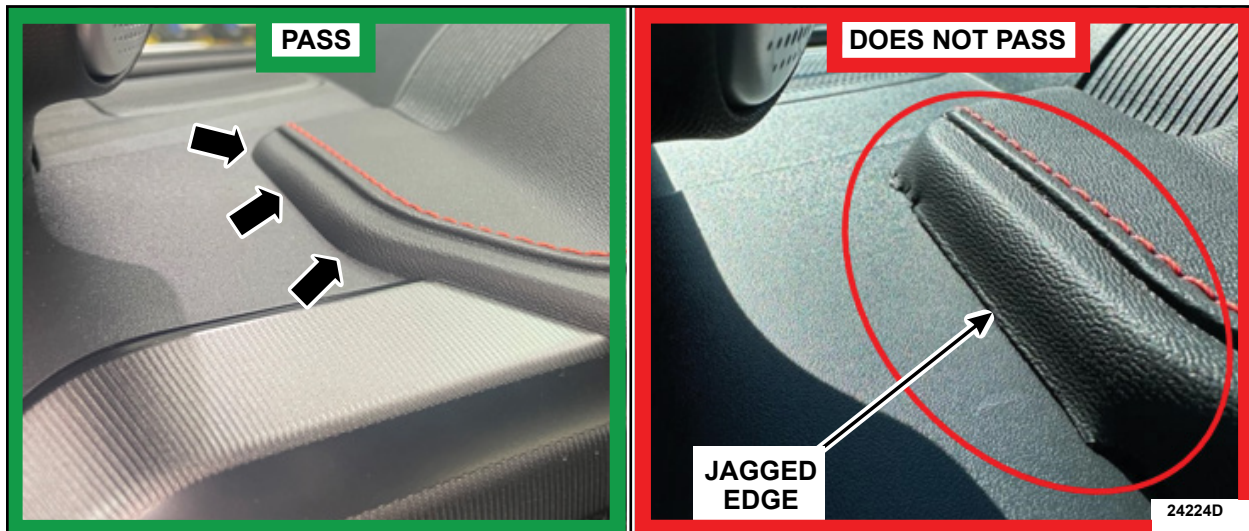

FIGURE 3
8. Inspect the Instrument Panel (IP) for any loose damaged or missing trim.
9. Inspect the Left Hand (LH) IP topper for jagged edges. See Figure 3.